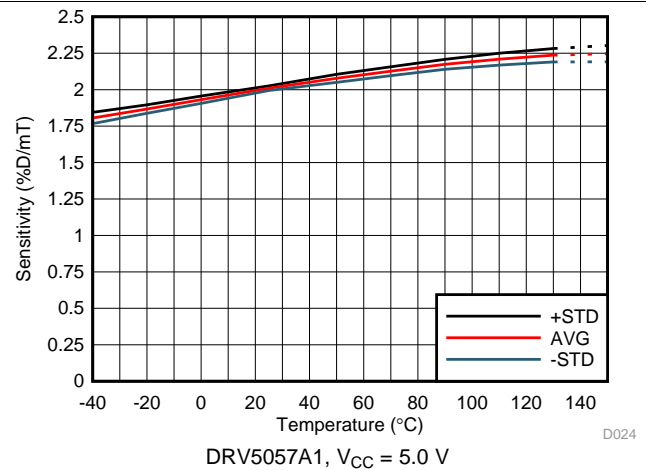

Figure 4. Sensitivity vs Temperature
(1) B is the applied magnetic flux density.
(2) See the section.
(3) B_L describes the minimum linear sensing range at 25°C taking into account the maximum V_Q and Sensitivity tolerances.
(4) See the Sensitivity Linearity section.
(5) S_{TC} describes the rate the device increases Sensitivity with temperature. For more information, see the Sensitivity Temperature Compensation for Magnets section and Figure 4 to Figure 11.